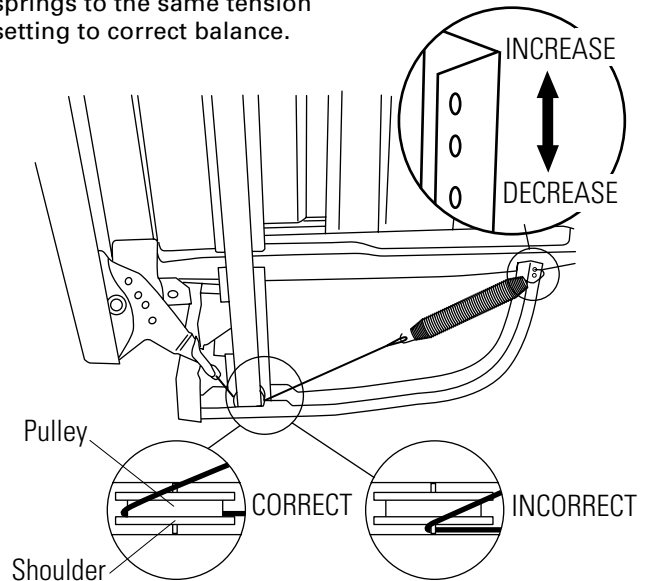

Figure 12
- See Figure 12 for adjusting spring tension. When adjusting tension, both springs must be set to the same position on the side brackets.
Check to be sure the spring cable is routed correctly before making spring adjustments. The cable is held in place by "shoulders" on the pulley. See Figure 12. Check to be sure the cable has not slipped over the pulley shoulder and onto the axle.